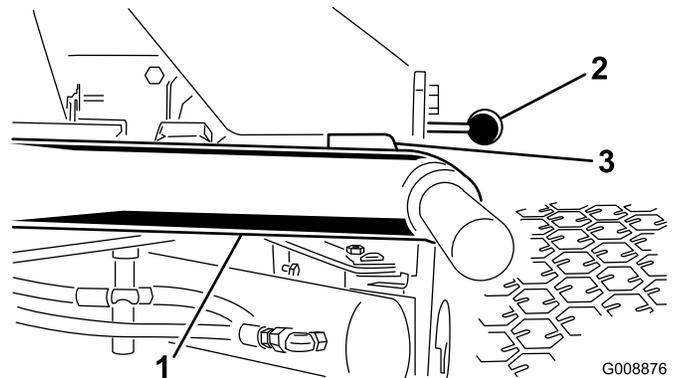

Figure 6
1. Start the engine, raise the cutting-units, and check to ensure that the clearance between each lift arm and the floor-plate bracket is 5 to 8 mm (0.18 to 0.32 inch) as shown in Figure 6.